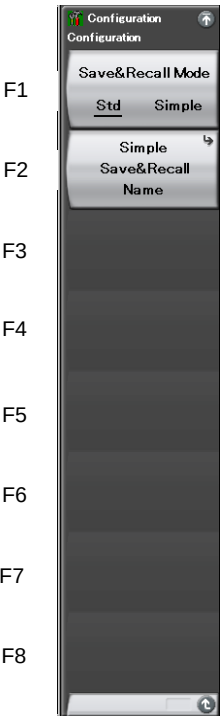

Figure 3.6.4-1 Save&Recall Settings function menu
- 3. Press  (Save&Recall Settings) to display the Save&Recall Settings function menu in Figure 3.6.4-1.